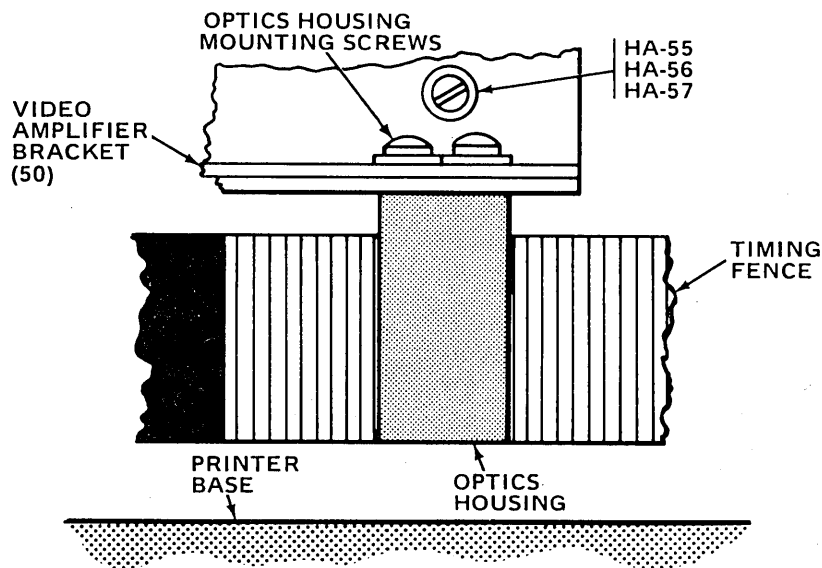

Figure 5-8. VERTICAL AND HORIZONTAL ALIGNMENT OF SINGLE CHANNEL OPTICS HOUSING
2. Vertical and Horizontal Alignment of Optic Housing (Fig. 5-8)